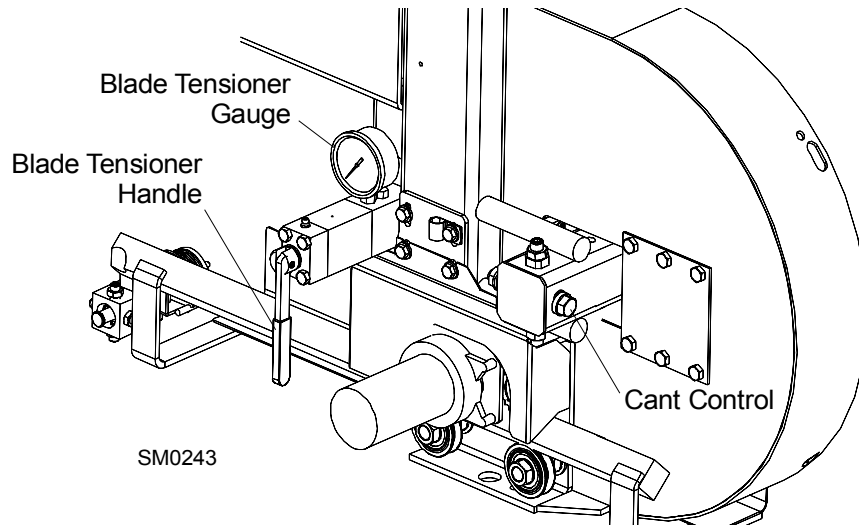

FIG. 2-6
See Figure 2-6. Tension the blade by turning the hydraulic tensioning handle clockwise until the tension gauge indicates the recommended tension.
5. To adjust where the blade travels on the blade wheels, use the cant control shown in **Figure 2-6**.